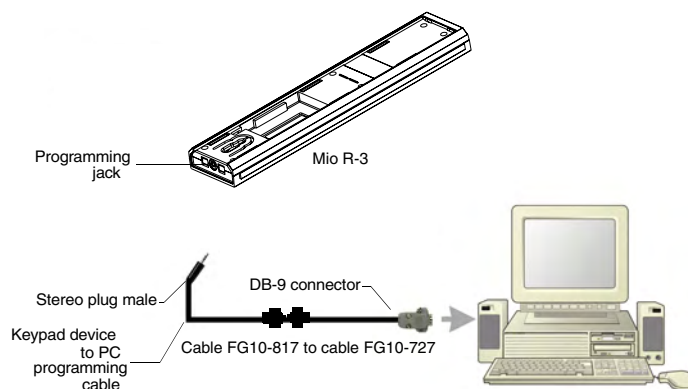

FIG. 4 Connecting The Keypad Device to Your PC
1. Connect the Mio R-3 to your computer via the programming jack (FIG. 4).